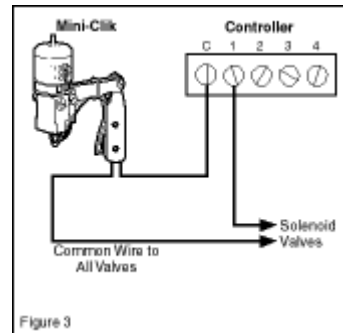

Figure 3
3. Connect one wire to the SEN terminal and one to the other SEN terminal (See Figure 3).
1. *24 Volt Solenoid Valves Only (No booster pump)* (See Figure 3) With the two wires from the Mini-Clik at the controller, locate the "common ground" wire of the solenoid valves. If it is connected to the common terminal disconnect it. Attach one wire of the Mini-Clik to the "common" terminal (usually marked "C") on the controller. Attach the other wire of the Mini-Clik to the common wire leading to the valves. Note: The common wire to the valves does not have to be interrupted at the controller. The Mini-Clik may be wired anywhere along the common wire line.